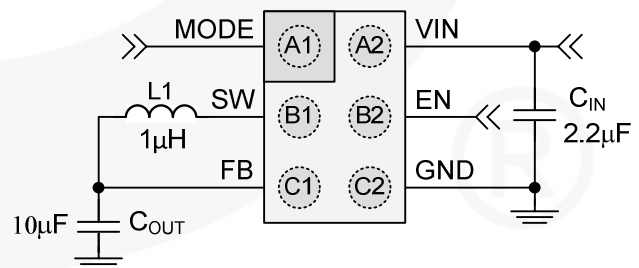

Figure 1. Typical Application
**Table 1. Recommended Components for Circuit in Figure 1**
Minimum and maximum values are at  $V_{IN} = V_{EN} = 2.7V$  to  $5.5V$ ,  $V_{MODE} = 0V$  (AUTO Mode),  $T_A = -40^\circ C$  to  $+85^\circ C$ ; circuit of Figure 1, unless otherwise noted. Typical values are at  $T_A = 25^\circ C$ ,  $V_{IN} = V_{EN} = 3.6V$ ,  $V_{MODE} = 0V$ ,  $C_{OUT} = 10\mu F$ .